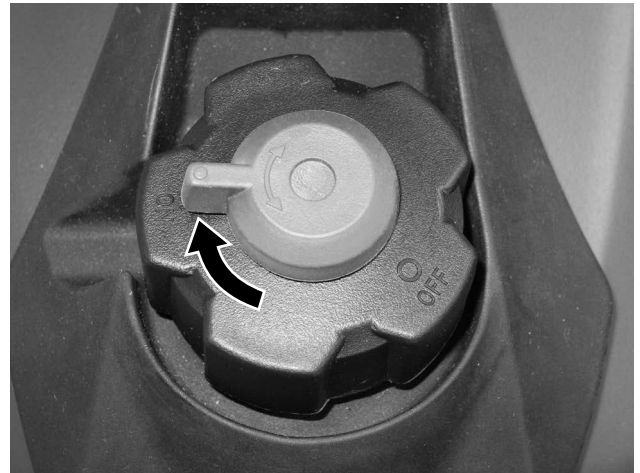

Figure 27 – Fuel Tank Vent
1. Turn the fuel tank vent to the **ON** position (see *Figure 27*).